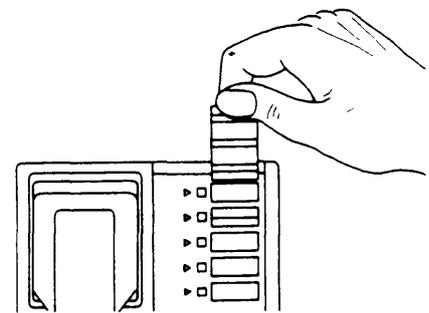

Figure 5
2. Remove the label by pulling the end of the label. (see Figure 5).